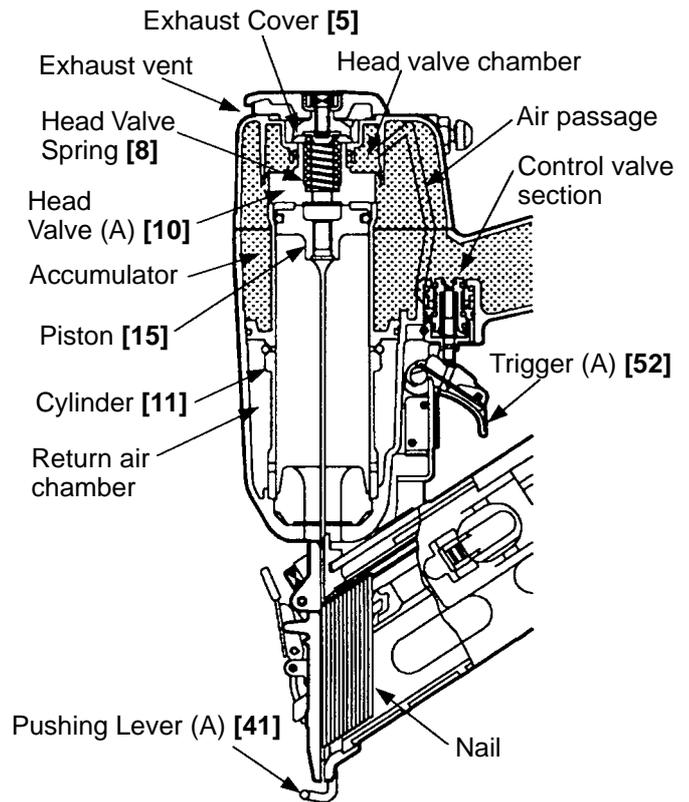
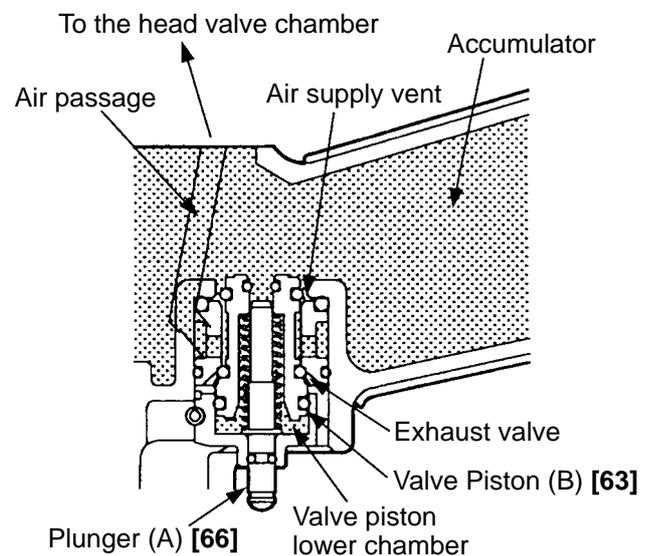

Fig. 5
Fig. 6 Control valve section
(1) Before nailing: (Fig. 5 and Fig. 6)
(2) When nailing: (Fig. 5 and Fig. 6)
- 3) When Trigger (A) [52] is released, Plunger (A) [66] returns (lowers) completely as shown in Fig. 6. Compressed air then flows into the valve piston lower chamber, and Valve Piston (B) [63] is forced upward. The Piston [15] then returns fully upward. Therefore, unless Trigger (A) [52] is released after each nailing operation, the structural mechanism prevents the next nailing operation.